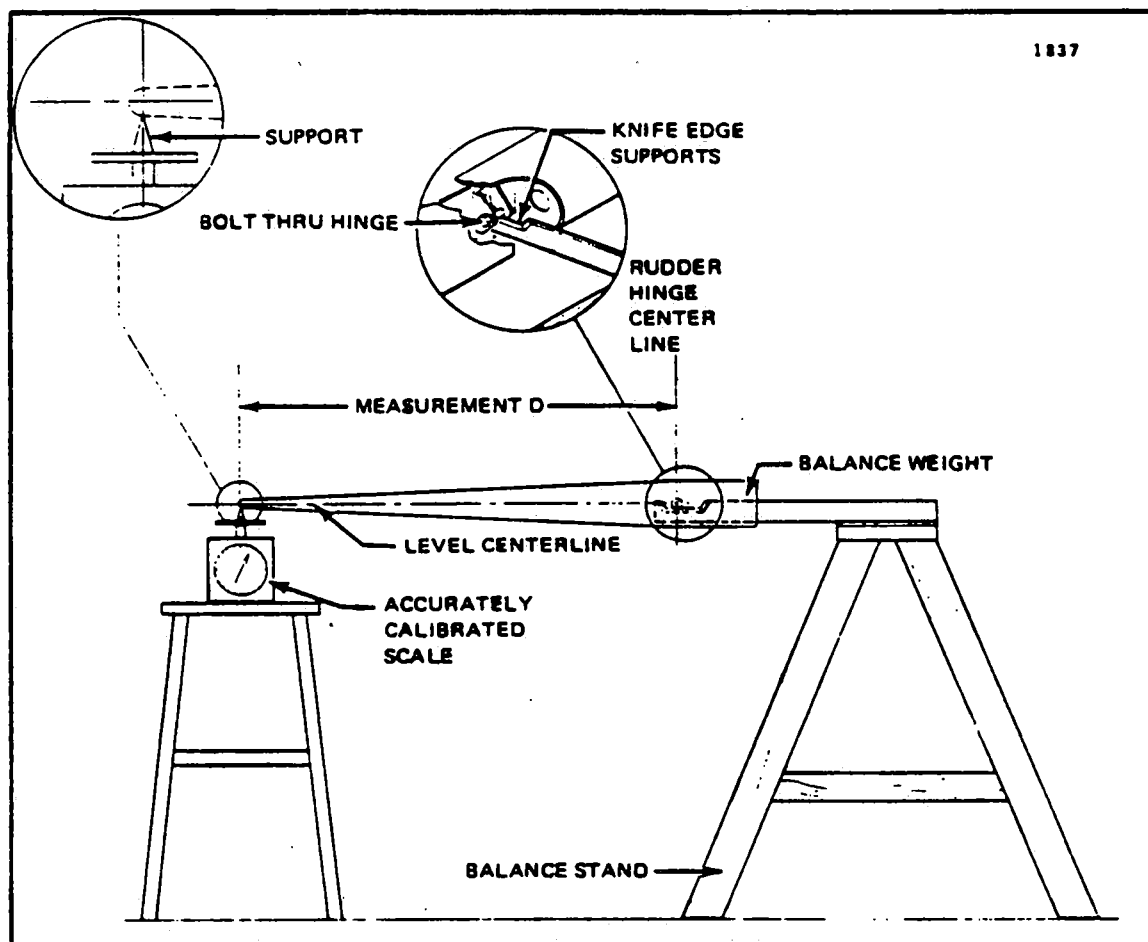

Figure 4-13. Checking and Balancing Rudder
4-51. **CHECKING AND BALANCING RUDDER.** (Refer to Figure 4-13.) The rudder must be checked to assure it is properly balanced whenever it has been repaired, repainted, or altered in any manner. The balancing requirement of the rudder must be checked with the complete assembly removed from the airplane.
b. Insert bolts in the two end hinges and place the complete rudder assembly on a suitable balance stand, as shown in Figure 4-13.
c. Position an accurately calibrated scale below the trailing edge of the rudder, as shown in Figure 4-13.
e. Measure the distance (in inches) between the point at which the support on the scale contacts the rudder surface and the centerline of the rudder hinge. This is Measurement D on Figure 4-13.